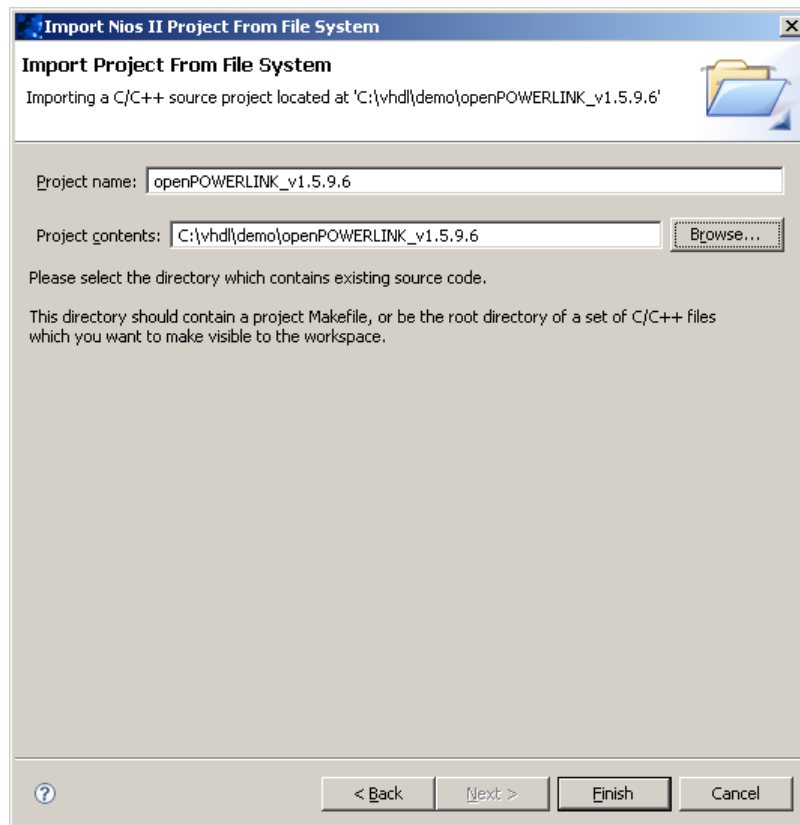

Figure 7-2: import openPowerlink Stack sources
6. Browse to **MYROOT**\openPOWERLINK_v1.5.9.6 (ignore warnings!) to get the openPowerlink Stack Source Files (refer to Figure 7-2)